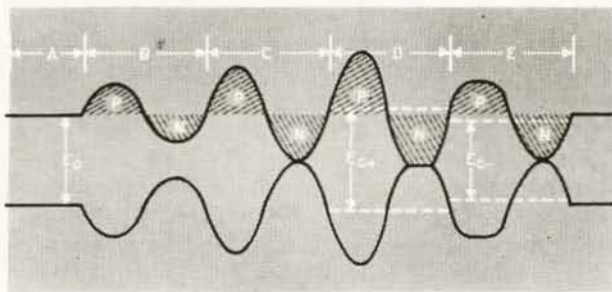
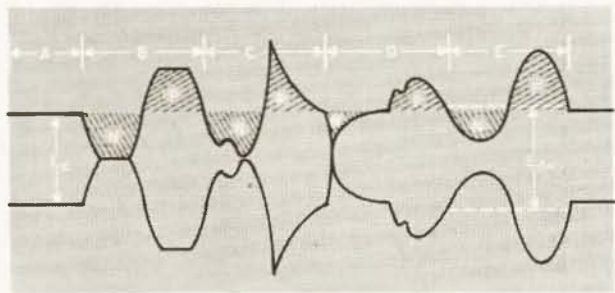
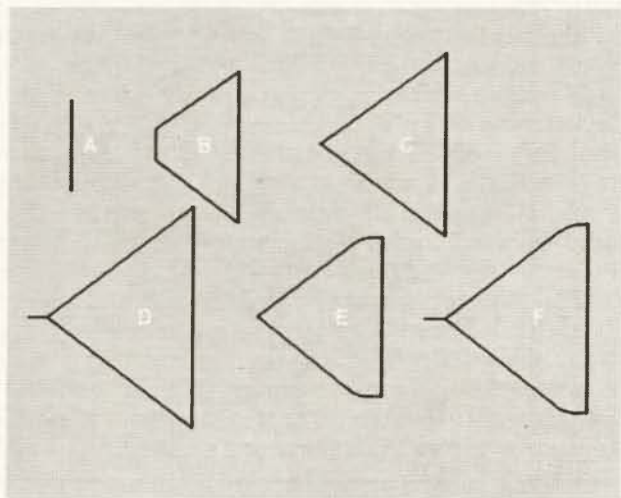

Fig. 1
Fig. 2
Fig. 3 — 1
capacitance, the scale is linear and there is no need for other than full-scale calibration. Hence, a variable resistor, R5 in Fig. 1, is used to shunt a bit of extra current around the meter, to allow for battery aging and also to eliminate the necessity of setting the multi-vibrator exactly on frequency.
The MV, in Fig. 1, has three possible states of normal operation. They are: Q1 conducting and Q2 cut off, or Q2 on and Q1 cut off, or a transitional state where both conduct. When the power switch, S1, is first turned on either Q1 or Q2 starts to conduct more readily than the other due to inherent circuit unbalance. Due to the regenerative action of the cross coupled amplifiers one or the other soon is
driven to saturation, with the opposite amplifier cut off by the large positive bias developed by the charge on the coupling capacitor. The plus charge drains off toward the B— thru the base bias resistor, and at about —0.1 volts of base bias, the cut off transistor then conducts, and regeneration quickly causes this transistor to become saturated, with the opposite one cut off. This process repeats itself at a rate governed mainly by the base bias resistors, R2 and R3 in Fig. 1, and the inter-coupling capacitors, C1 thru C8. The result is more or less a square-wave. A capacitor, Cx, is connected across the terminals J1 and J2 with the instrument turned on. When Q1 is conducting and Q2 is cut off, Cx is charged to practically the full battery voltage thru CR1. On the next half cycle Cx discharges thru CR2 and the meter, M1, and recharges again in the opposite polarity, to the supply potential. The result is, of course, a
If no modulation is applied, the rf envelope height remains constant as in Fig. 1-A. Fig. 1-B shows the envelope sinusoidally modulated at about 70%, and if nothing unsanitary hap-
With a good transmitter, we should be able to increase the amplitude of the modulating signal to obtain 100% modulation (Fig. 1-C) while still maintaining an average amplitude of E_c : no carrier shift.
If the transmitter is capable of extended positive peak modulation (and few really are), a further increase in the modulation gives the pattern of Fig. 1-D. Here the transmitter shuts itself off for a brief portion of the negative peak, so that the positive peaks' areas (P) are greater than those of the negative peaks (N). Now the average rf amplitude increases to E_c+ : positive carrier shift. The clipped negative peaks represent a source of vicious splatter. Their sharp corners correspond to modulating frequencies much higher than the actual output of the modulator, and the resulting sidebands are much farther from the carrier than normal. Modulating frequencies this high would not ordinarily be passed by the modulation transformer, so that the broadening will be more severe than that which audio distortion alone could cause.
If the transmitter distorts the positive peaks, splatter may also be produced. In Fig. 1-E the negative peak is the same as 1-C, but the flattened positive peak makes area P less than area N, so that a negative shift in carrier amplitude occurs, and the average rf amplitude becomes E_c- . Actually this flattening is usually more gradual than in 1-D, so the signal may not be quite as broad. It can still clutter up several adjacent channels, however.
If Fig. 1-E represents the output of a linear rf amplifier or a grid-modulated stage, other causes suggest themselves. In these systems, the rf amplifiers' plate efficiency must approximately double on positive modulation peaks, so if the grid drive is too high, the unmodulated efficiency will run too high and the positive peaks must suffer. Some relief is available here by using a lower plate load impedance to raise the limit of plate current. By juggling drive and loading, we can usually restore the positive peak.
Figure 2-B shows that two wrongs don't make a right. Here a rare combination of circumstances has resulted in overmodulation without carrier shift, since positive peak flattening exactly matches the negative clipping caused by overmodulation. The average rf amplitude is unchanged from its unmodulated value (Fig. 2-A). Splatter, however, is abundant . . . the modulator is putting out a sine wave. What if the modulator's output waveform actually was that shown? In that case we would have no splatter by our definition,
Figures 2-C and 2-D show the reasoning behind "extended positive peak" modulation. Voice and music modulation often produces waveforms with unequal peaks. Here a waveform of that type is shown; 100% modulating a radio wave, first in one polarity and then in the other. The drawing is intended to indicate that in both cases the positive peak (P) and the negative peak (N) include the same area. In Fig. 2-C however, the smaller peak is applied negatively, and (assuming again that the transmitter can handle the extended positive peak) modulation in the positive direction can actually exceed 125% without splatter. No carrier shift exists. If, as in Fig. 2-D, the modulating signal is applied in the opposite polarity, the gain control must be backed off, and the sideband power decreased accordingly to prevent negative peak overmodulation, carrier shift, and splatter. The correct polarity for your particular voice may be found by reversing any two wires in the audio system . . . or even, with some types of microphones, by speaking into the other side of the microphone. The pattern is most easily interpreted for voice modulation if a slow linear sweep (under 100 cycles) is applied to the horizontal plates and the transmitter's rf output sample directly to the vertical plates of the 'scope.
Even if your voice waveform exhibits as much unbalance as in Fig. 2-C, there is a very good possibility that your transmitter cannot handle the extension of positive peaks, for the reasons listed in reference to Fig. 1-E. If you decide to carry the extension farther than can be done by finding the favorable audio polarity, systems have been evolved where a sine wave output from the modulator causes extended positive peak modulation as in Fig. 2-E. We recognize this as carrier shift, and we must admit that it will produce splatter since the modulated wave outline does not conform to the modulator's output waveform. There is a possibility that, if not carried to excess, the spurious side-frequencies produced will not cause serious adjacent channel interference. We have no assurance that the additional sideband power that we attain in this way will not be objectionable, or that it will contribute to intelligibility at the receiver. Systems of this sort which have been suggested in amateur publications do not guarantee against adjacent channel interference even though the negative peaks are not clipped; nor do they put all the extra sideband power through the selective portions of the receiver.
Before we make any suggestions, let us review the 'scope patterns by inspecting their corresponding trapezoidal displays. Fig. 3-A, of course, represents the trapezoidal pattern for no modulation. Figs. 3-B, C, D, and E correspond to Figs. 1-B, C, D, and E respectively. Fig. 3-F shows the highly improbable case outlined as a modulated envelope in Fig. 2-B. Drawn to the same scale, Fig. 3-G, in its entirety, is larger (by the cross-hatched area) than 3-C. Due to the greater peak amplitudes obtained with the extended positive peak modulation encountered in the corresponding Fig. 2-C. The shaded triangle of 3-G shows the reduction of positive peaks necessary to prevent overmodulation with improperly polarized audio (2-D). You may have noticed that any bends or corners in the non-parallel sides of our trapezoid represent carrier shift. In 3-D, E, and F, the departures from linearity are abrupt. In 3-H, the bending is gradual, but carrier shift still exists, reflecting the condition (2-E) of artificially extended positive peaks.